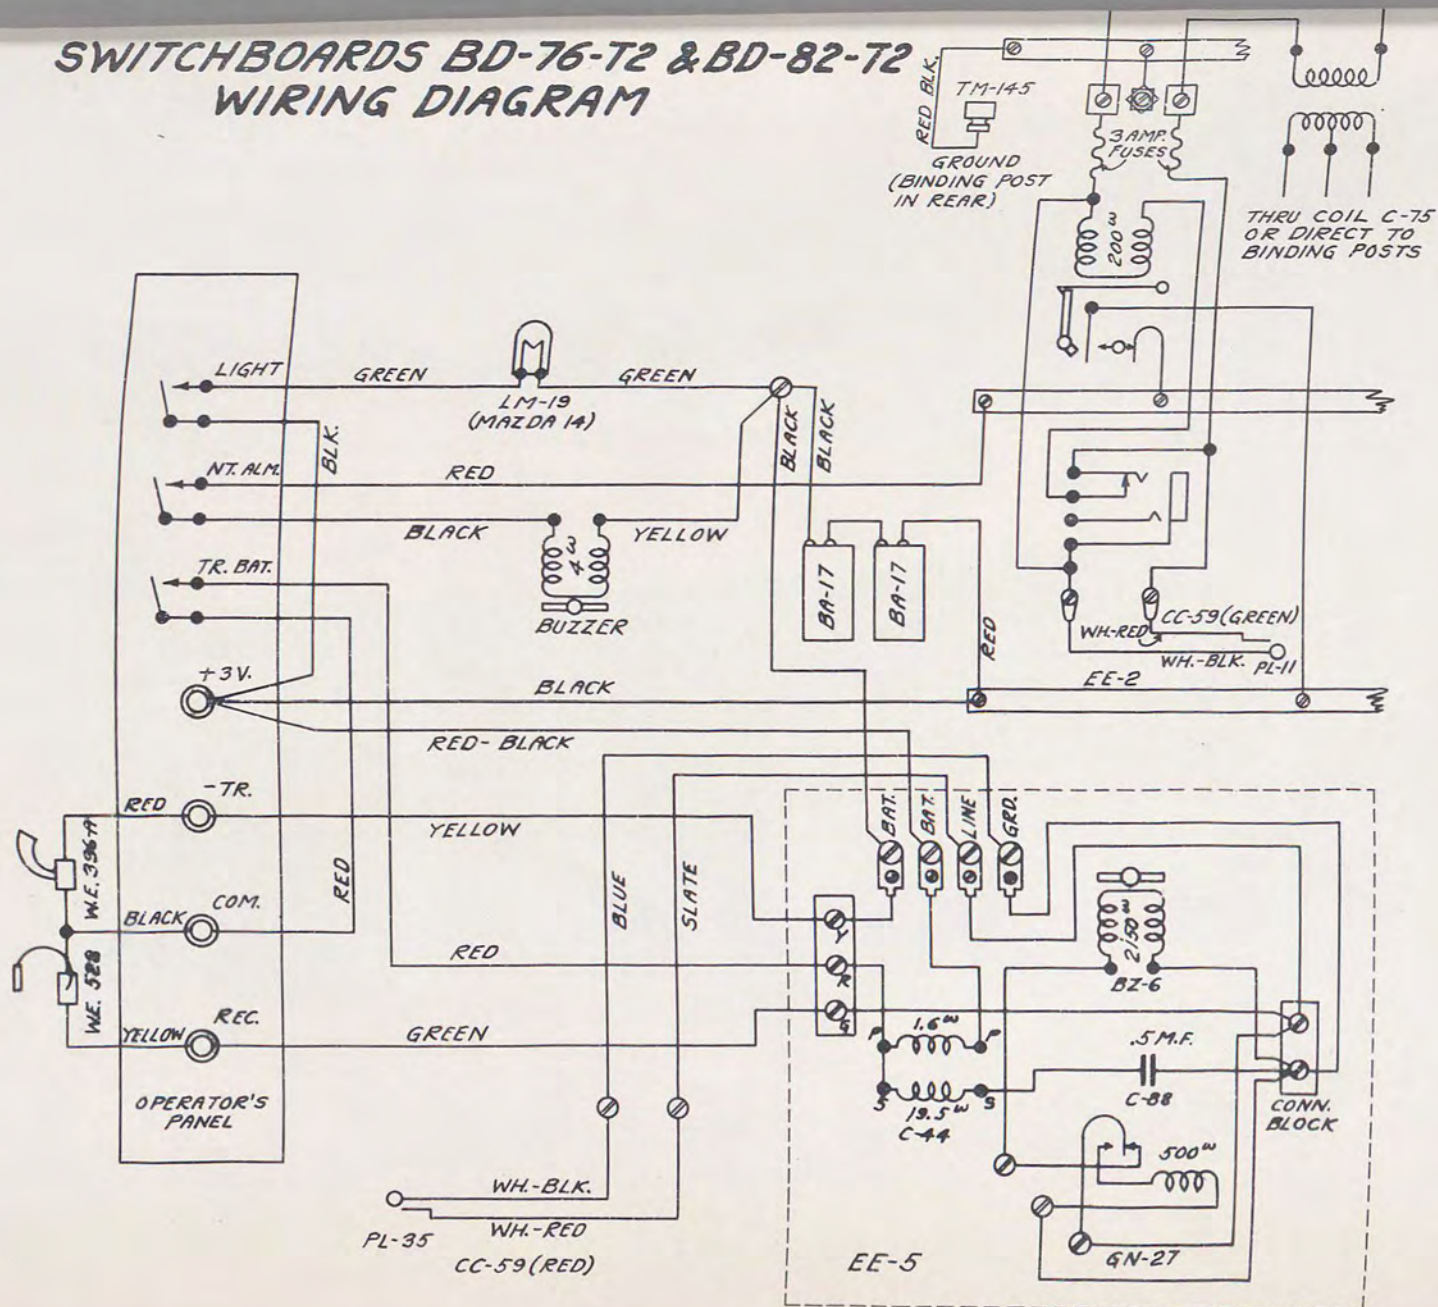

Fig. 7
7. The wiring diagram of Switchboards BD-76-T2 and BD-82-T2 is shown in Fig. 7.
are for the light, night-alarm, and transmitter-battery circuits, respectively, from top to bottom, as marked on the panel (see Fig. 7). The first two binding posts are for emergency battery connections; "+3v." at the top, and "-TR" (transmitter) next. The "-TR" binding post is also connected to the transmitter lead of the head and chest set. The third binding post "COM" is for the common lead, and the fourth "REC" for the receiver lead of the head and chest set. At the right side a metal plate covers the operator's telephone.
30. The wiring diagram, Fig. 7, should be followed closely in making tests and repairs on the switchboards. The drop and jack on each switchboard unit should be kept in proper adjustment. The jack, if not tampered with except for cleaning, should rarely get out of adjustment. Contacts can be cleaned by burnishing the points with a thin piece of soft wood. No attempts should be made to adjust the drop springs except by experienced personnel with the proper tools.